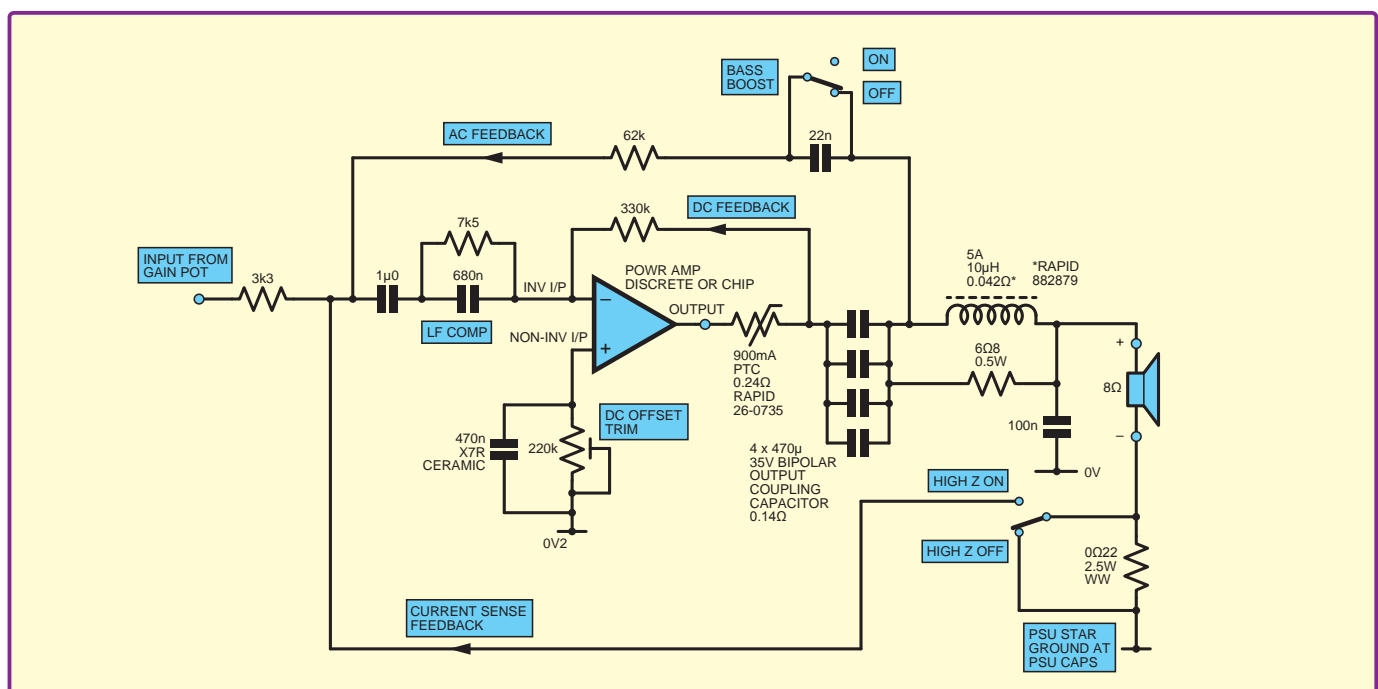
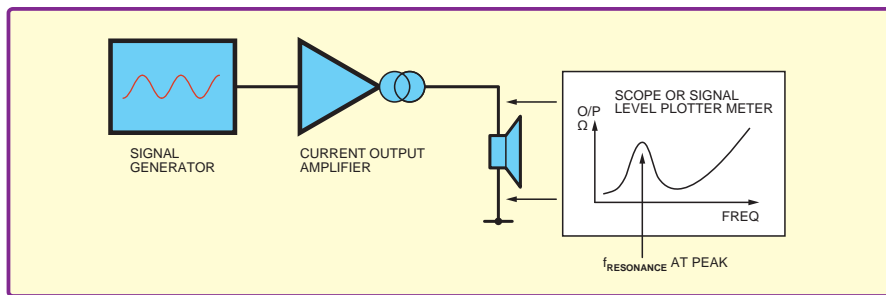
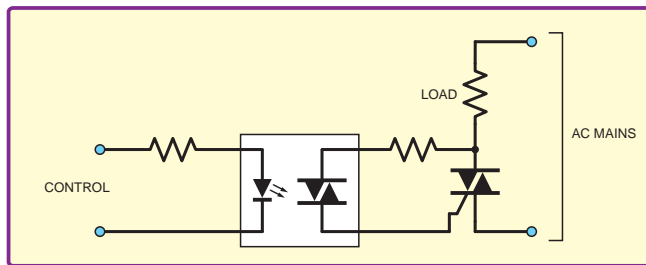
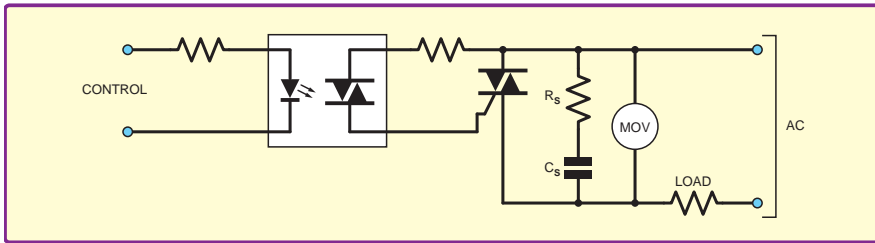

Fig.6. The circuitry around the basic power amp module in Fig.1 (see Part 1 in November 2014)
Fig.7. Using the high-impedance constant-current output to measure the resonant frequency of a loudspeaker driver
Fig.3. Opto-isolated triac control
Fig.5. Triac circuit with snubber (R_s and C_s) to prevent false triggering and MOV for overvoltage protection
driving unusual loads. I also use it to current-drive loudspeakers which can reduce intermodulation distortion from the electromagnetic drive system. The basic circuit of this was shown in Fig.6. Note that since it generates additional negative feedback, the gain reduces by 18.8dB when an 8Ω load is used. Fig.7 shows how to find the resonant frequency of a loudspeaker, it's the frequency at the 'hump'.
For triac driving (see Fig.3) the detector is usually a phototransistor or a complex device that behaves like a diac/triac triggered by light (as in Fig.3). In some opto-isolators, further control circuits are present, which ensure switching close to the zero crossing of the mains waveform.
In the circuit in Fig.3, a microcontroller or other logic circuit runs from a conventional low-voltage power supply and supplies the control input to switch on the opto-isolator LED and hence the load. The opto-isolator keeps the triac/load and control circuit electrically separate so we do not have to worry about any interaction between them. However, this will only be of any use if the overall construction of the system is also safe. Correctly designed, implemented and constructed opto-isolated power switching is very safe, but it is worth mentioning that working on prototyping and debugging such circuits may expose the developer to hazards that the end user would not experience. **This type of work should only be carried out if you are suitably experienced and competent.**
SCRs and triacs have a third terminal known as gate (G). The higher the current into the gate the smaller the forward breakover voltage becomes. Thus, applying a sufficient pulse of current to the gate will switch the device into the 'on' state. Once in the on state, the gate current need not be maintained due to the bistable action mentioned above. The device remains on until the main current falls below the holding current. For the photosensitive diac/triac device used in opto-isolators (as in Fig.3) light acts like a gate signal in a triac, reducing the breakover voltage and causing the device to switch on with a relatively small voltage applied to its main terminals.
For DC switching with an SCR, the power must be explicitly removed to switch the device off, but for AC switching with a triac, the device will switch off at the end of the half cycle during which it was triggered – this is because the current through the device will drop below the holding current as the AC voltage drops towards 0V. Thus, to switch a load on continuously a triac has to be triggered during every half cycle of the AC waveform. This happens automatically in the circuit in Fig.3 when the LED is on because the photosensitive diac will trigger directly from the AC supply in every cycle. The resistor connected to the opto-isolator output is to limit the current through the photosensitive diac/triac.
Triacs are typically most sensitive (require lower trigger currents) in quadrants I and III. They are slightly less sensitive in quadrant II and least sensitive in quadrant IV. Some triacs cannot be triggered in quadrant IV. Datasheets typically refer to 'four-quadrant' and 'three-quadrant' triacs to indicate whether or not the device will switch in quadrant IV. Three-quadrant triacs are typically trading off this gate trigger option against sensitivity to triggering by rapidly changing main terminal voltage. The circuit in Fig.3 triggers the triac in quadrants I and III.
The gate current is unfortunately not the only way to turn on an SCR or triac. A sufficiently fast rising main terminal voltage can also do so due to the capacitances inherent in the device's structure. This is similar to the dV/dt -induced turn on of MOSFETs discussed last month. As with MOSFET power switches, snubber circuits (resistor and capacitor in series) can be used to reduce the rise-time of voltages across the device, as shown in Fig.5 (R_s and C_s).
The term 'random phase' opto-isolator is sometimes used for devices such as those used in the circuits in Fig.3 and Fig.5. This simply means that the control input to the LED can
Fig.7 shows a typical application circuit using the FOD410 or similar, based on the Fairchild datasheet. As would also be the case for the circuits in Fig.3 and Fig.5, R_{in} is calculated using the control circuit supply voltage and LED forward current. The required forward current can be found by consulting the datasheet – it will be different for different devices, but typically in the order of milliamps. Typical snubber values are also shown, although the snubber may not be needed in all situations and for others different values will be required; again the datasheet
Fig.7. Typical zero-crossing opto-isolated triac power switching circuit, based on Fairchild Semiconductor FD410 datasheet. Component values may need to be different in real designs – please consult device datasheets